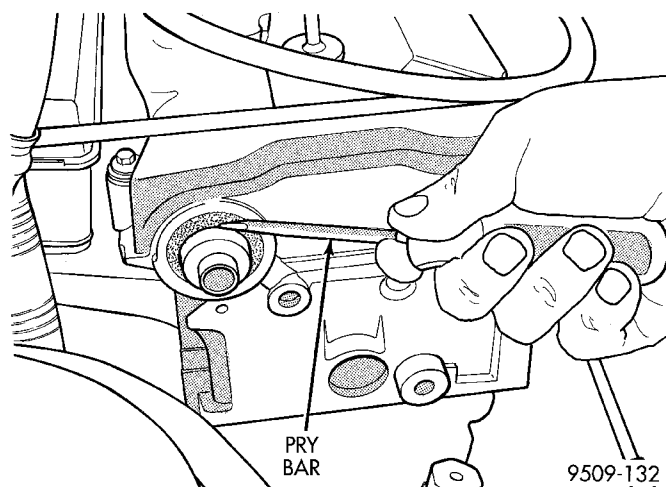

Fig. 54 Removing Camshaft Oil Seals
(3) Remove camshaft seal using a pry bar. Be careful not to nick or damage the camshaft seal surface or cylinder head seal retaining bore (Fig. 54).